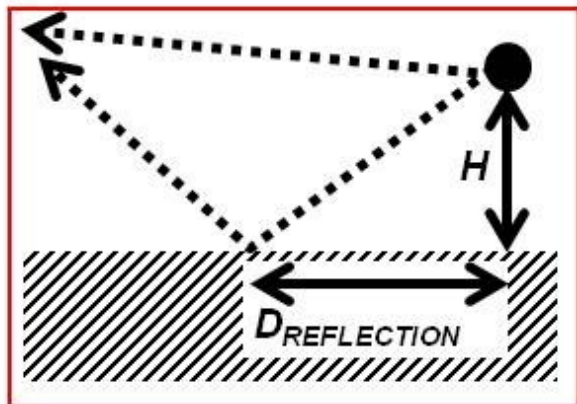

Figure 2 – The antenna pattern is a composite (vector addition) of fields traveling along a direct path and fields that are reflected from the ground.
Second, NEC software computes electromagnetic (EM) fields using those antenna currents as sources. Again, if you included ground parameters then the software includes ground-reflection EM field components, as pictured in Figure 2. The specifics are not important, but getting the distant composite EM field F can be summarized as follows.